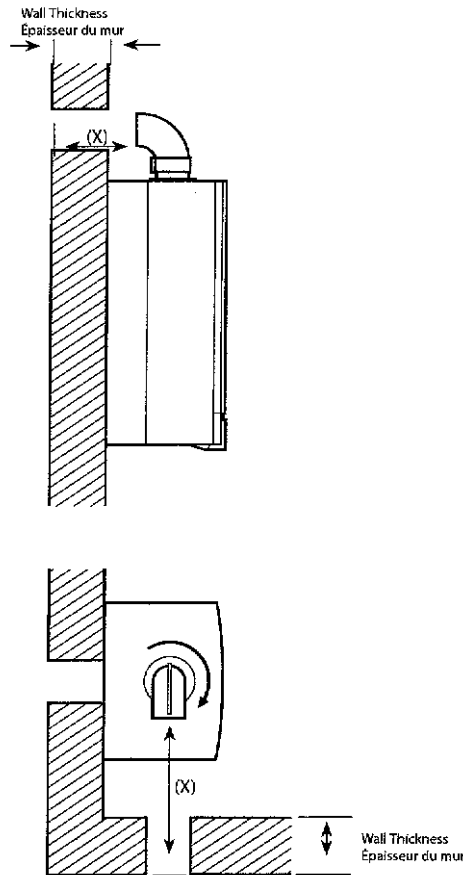

Fig. 2
2. Measure the distance from the outside wall face to the elbow (Fig. 2). This dimension will be known as 'X'.